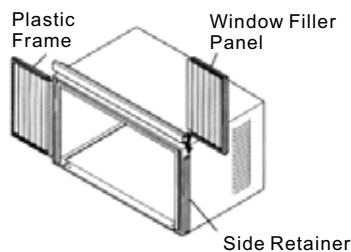
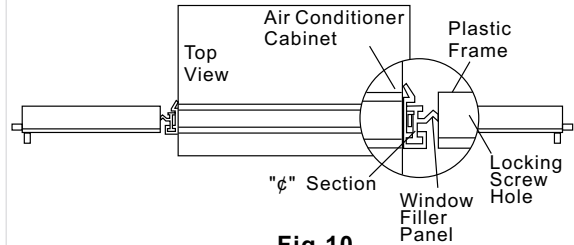

Fig.9
Fig.10
2. Slide "I" section of window filler panel into side retainer on the side of the cabinet (see Fig.9 & Fig.10). Do both sides.